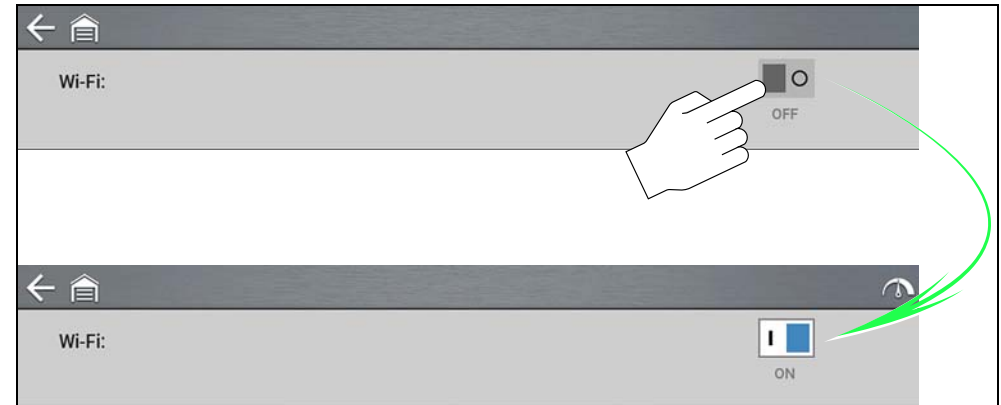

Figure 14-1
1. To turn Wi-Fi on/off, select the **Wi-Fi power** icon (Figure 14-1).